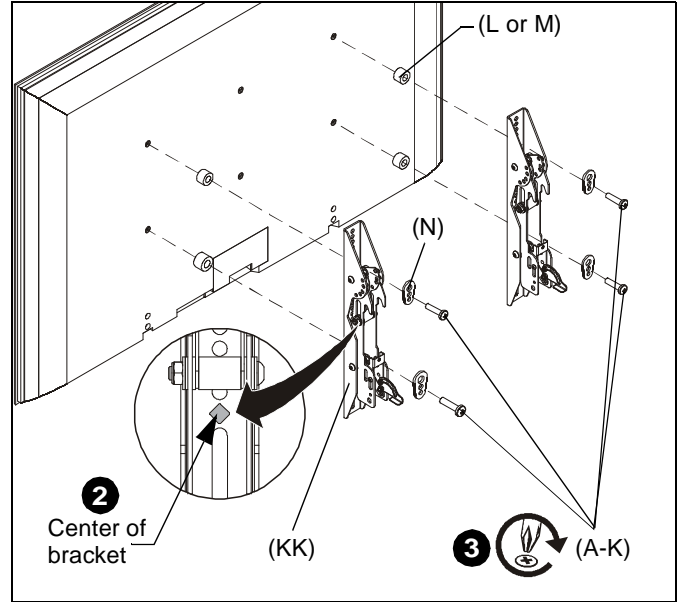

Figure 10
2. Align the center of the interface bracket (KK) with center of screen. (See Figure 10)
3. Select correct screws, spacers (if necessary) and universal washers from the hardware bag (A-N) and attach brackets (KK) to back of screen. (See Figure 10)